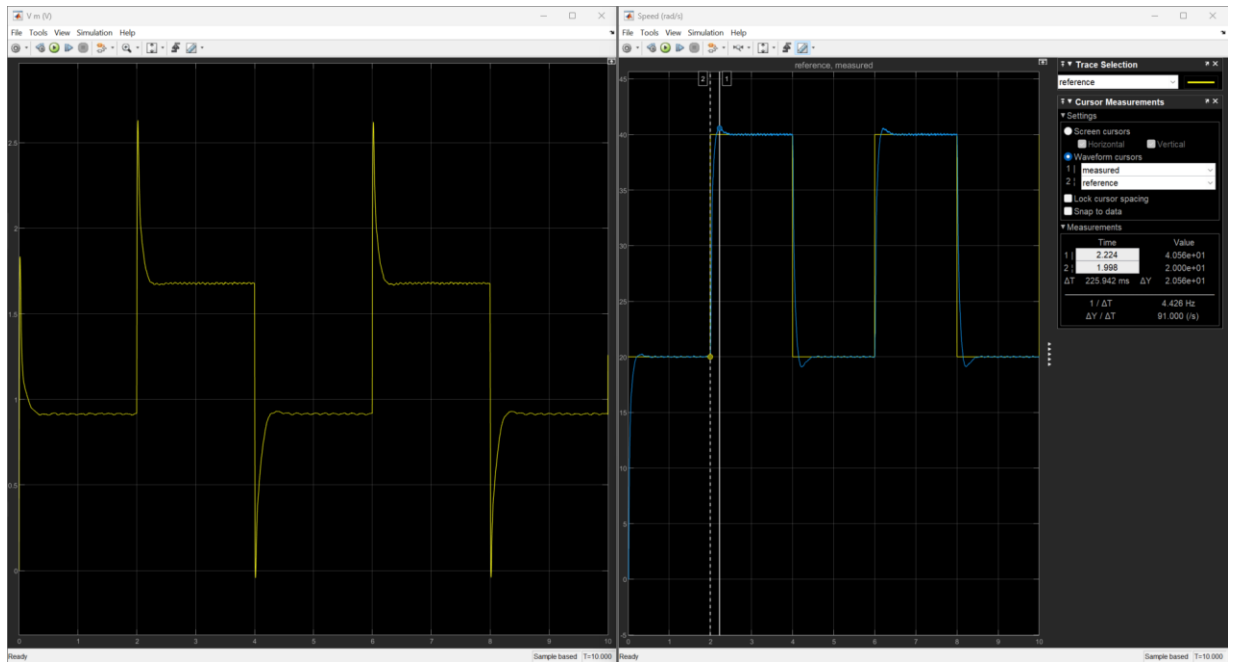

Figure 3: Sample response of the lead compensator using $K_c = 1$.
21. Use the measurement tool as shown in figure 3 to measure the percentage overshoot and peak time of the response. Does the response match the predicted step response from the previous section?